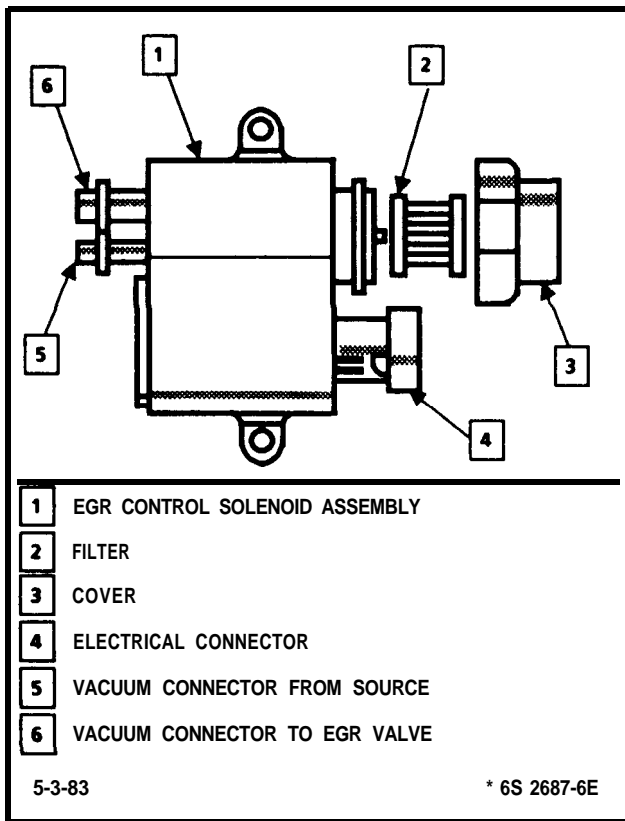

Figure C7-5 - EGR Control Solenoid
2. Electrical connector at solenoid (See Figure C7-5).
2. Install new filter. (See Figure C7-5).